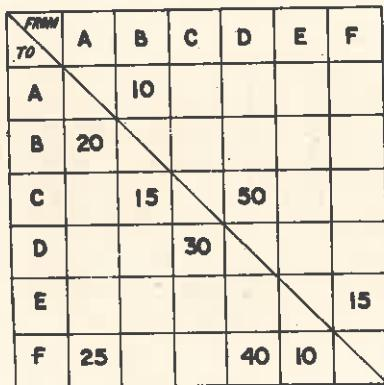

Fig. 4.12 3rd step.
4th step : Fig 4.12 is simplified by combining movements like *A* to *B* (20) and *B* to *A* (10) which involve same distance and therefore total movements $B \rightarrow A = 20 + 10 = 30$.